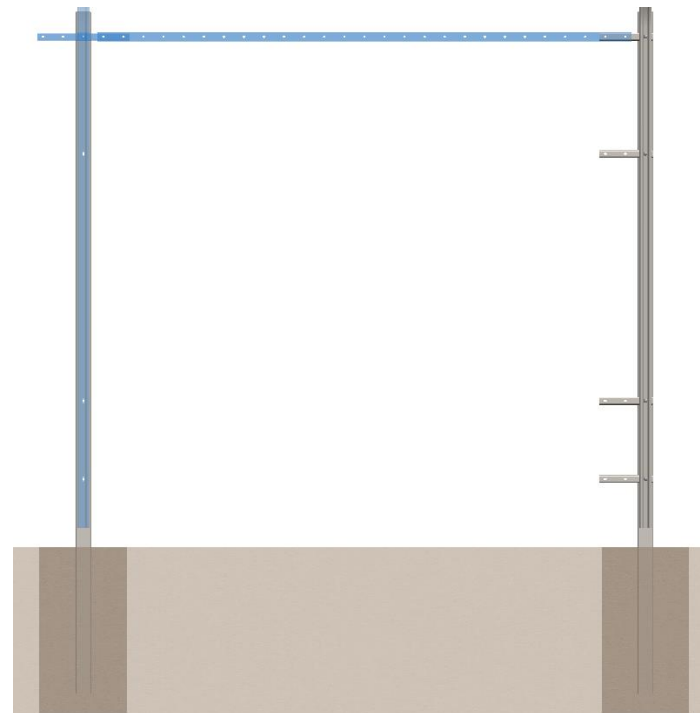

Figure 6
- Fixate the uppermost Intermediate Splice Tube Connector and Pale to the Intermediate posts, using a 150xM8 Mushroom Head Bolt, Self-Breaking Nut and Fender Washer.(Fig. 6)